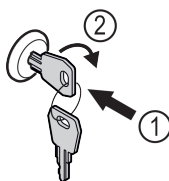

Fig. 175
- ▶ Insert the key. Fig. 175 (1)
- ▶ Turn the key clockwise by 90°. Fig. 175 (2)